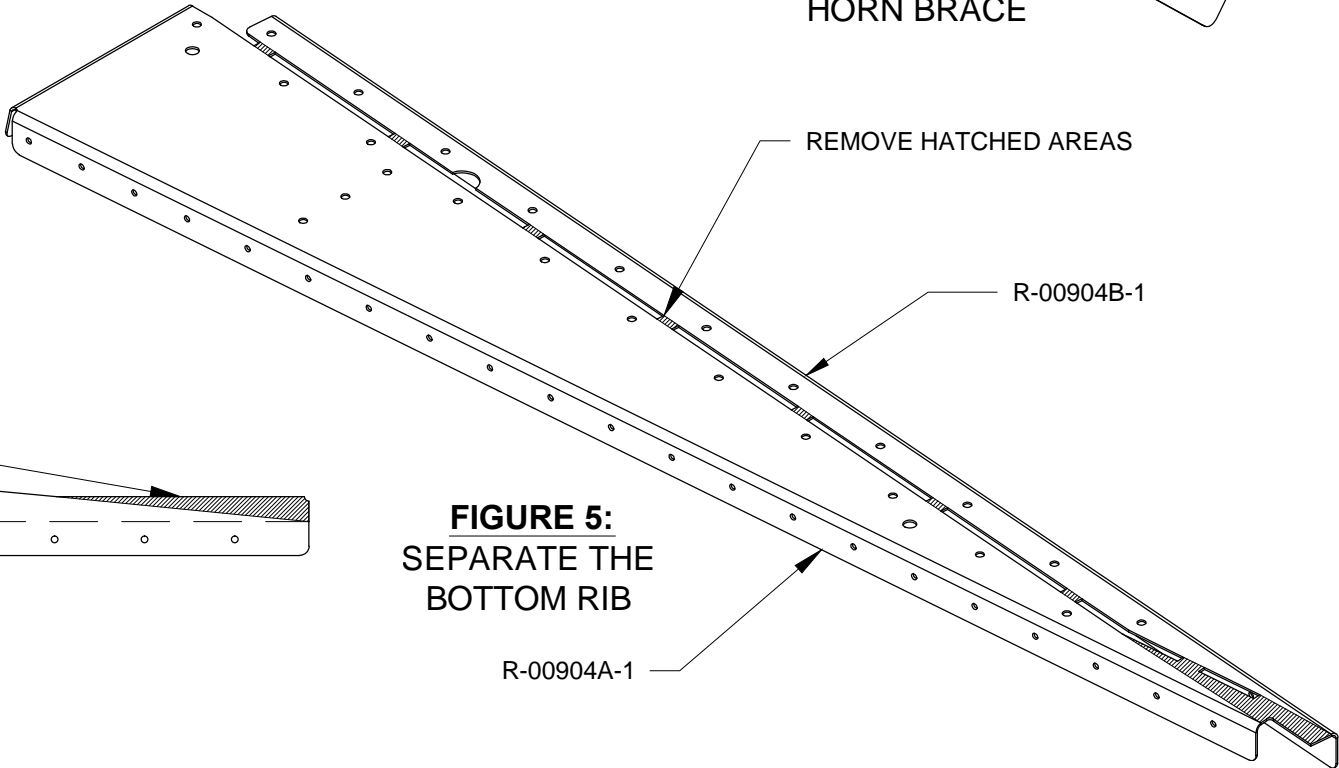

FIGURE 5:
Step 5: Separate the R-00904-1 Bottom Rib by removing the hatched areas as shown in Figure 5 to create R-00904A-1 and R-00904B-1 parts.